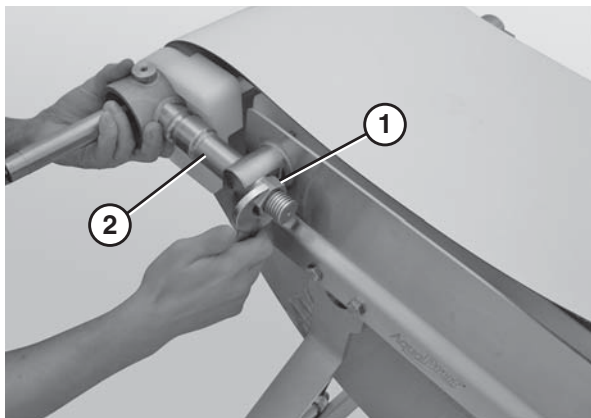

Figure 55
5. Remove the back nut (Figure 55, item 1) on both drive tail shafts (Figure 55, item 2).